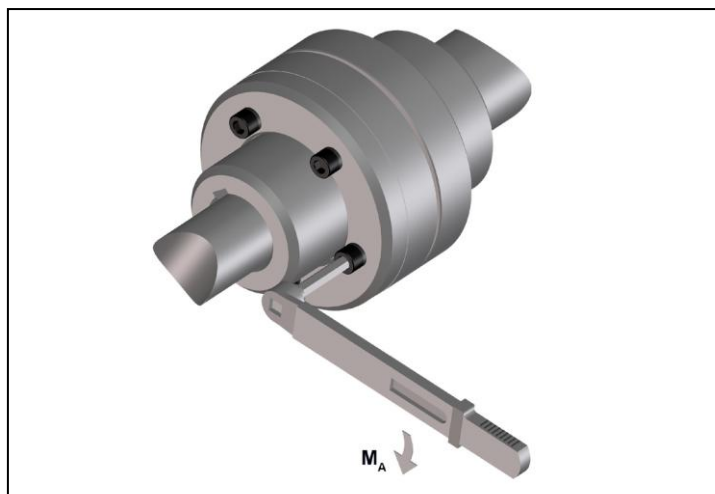

Fig. 13
- Tighten up the claw ring threaded joints with the tightening torque M_A stipulated in table 8 (Figure 13).